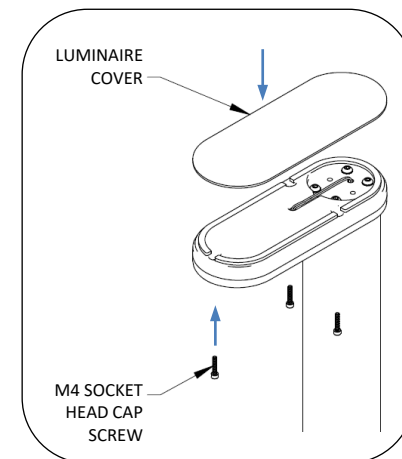

Fig. 8 – Install luminaire cover
7. Attach luminaire cover with (3) M4 screws, see Fig. 8.